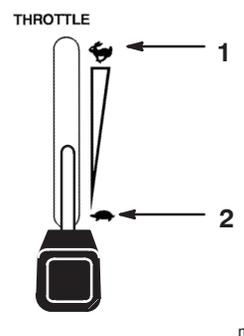

Figure 11
1. Move the throttle lever to slow (Fig. 11).